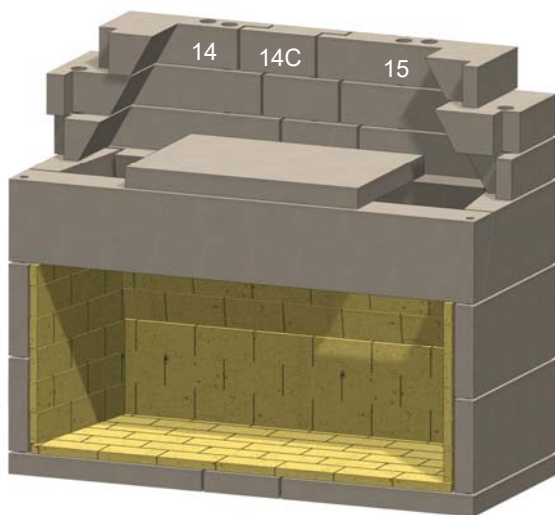

Figure 21. Upper Rear Throat
L. Install the upper level of rear throat pieces (14, 14C and 15). See Figures 21.